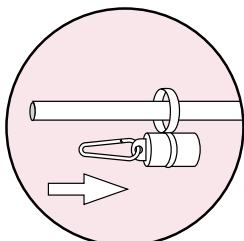
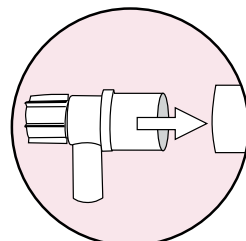
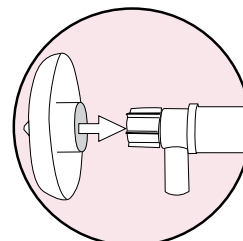

Fig 3a,
Fig 3b,
Fig 3c,
- 4, Place weight over pole (see fig 3a), mount rotating joint onto top of pole (see fig 3b), push on finial. (see fig 3c)